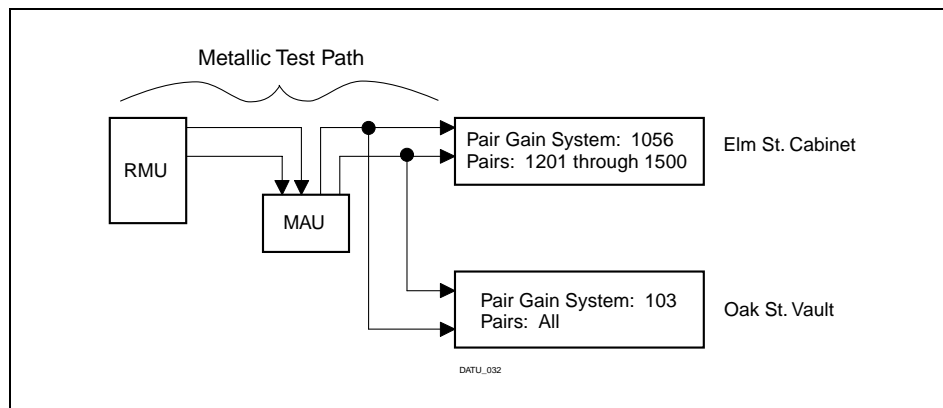
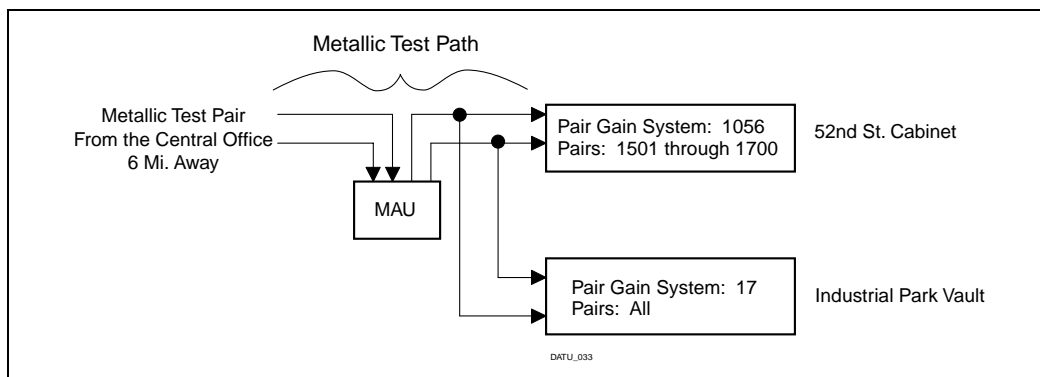
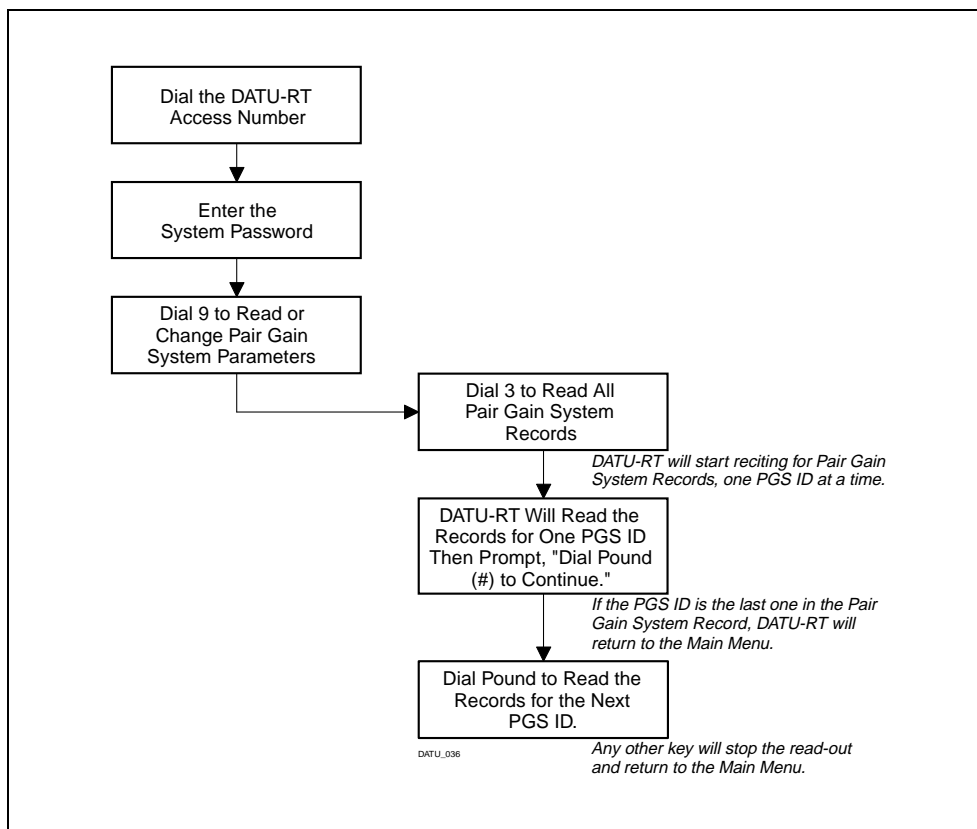

Figure 3-1. Testing with a Remote Measurement Unit
Figure 3-2. Testing with a Metallic Bypass Pair
Figure 3-5. Reading All Pair Gain System Records
A Split Pair Gain System is one in which the same Pair Gain System has cable pairs at more than one metallic test path physical location (shown in Figure 3-1 as PG1056 in the Elm St. and 52nd St. locations). The DATU-RT accommodates this split by allowing multiple Cable Pair Counts (and Harris Remote Terminal Devices, [e.g., MAUs]) to be associated with each Pair Gain System ID. An example of a Split Pair Gain System is shown in Figure 3-1, Figure 3-2, and in Table 3-5.
An MLT test of a customer's line in this test path (see Figure 3-1) is accomplished via an Remote Measurement Unit (RMU) at the DLC Remote Terminal eliminating the Metallic Bypass Pair running between the DLC Remote Terminal and the Central Office (CO). In this instance an MAU is required for metallic conditioning of the customer's line.
Table 3-5. RT Table (Example from Figure 3-1 and Figure 3-2)
An MLT test of a customer's line in this instance is accomplished via the Metallic Bypass Pair from the DLC Remote Terminal to the LTS at the CO (see Figure 3-2). A MAU may be placed in the test path eliminating the effect of the bypass pair which occurs when conditioning is performed at the CO end of the bypass pair.
In Figure 3-2 Pair Gain System ID 1056 is a Split Pair Gain System with:
1. **Before programming the Pair Gain System records**, it is advisable to have all the information on the remote site's Pair Gain configuration handy. An example of how this information could be organized is provided below, using the information in Figure 3-1 and Figure 3-2. An example of a table for recording Pair Gain System information prior to programming the DATU is provided. Sorting by Pair Gain System ID simplifies data entry.
3. **Pair Gain System ID**—DATU-RT will prompt for the Pair Gain System ID (PGS ID). This entry is the identifier of a Pair Gain System ID that has previously been programmed into the DATU-RT and you wish to read the pair count records (e.g., Pair Gain system 1056 on Elm Street as seen in Figure 3-1 and Figure 3-2). If unsure of the exact PGS ID to be entered, escape by entering pound (#) and read all Pair Gain System Records (see Figure 3-5). Enter star (*) to end this portion of the entry.
After accessing the DATU with the System password, perform the following steps to read all Pair Gain System Records (see Figure 3-5).